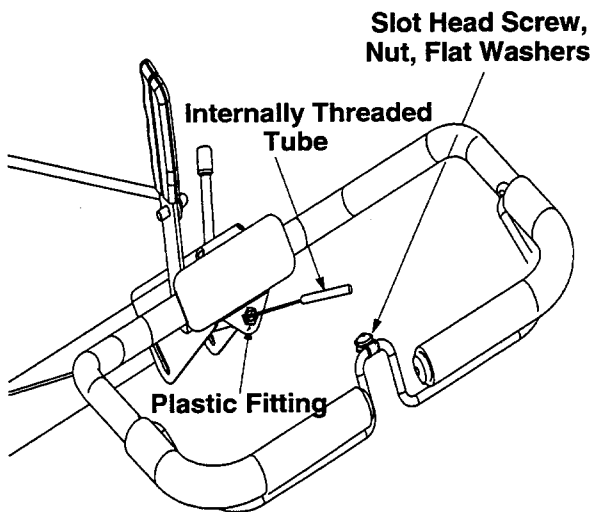

Figure 4
3. Push the cable through the hole in the center of the handle and snap in the plastic fitting. See Figure 4.
6. Thread eyebolt and #10 nut, removed in step 1, into the internally threaded tube at the end of the cable. Thread engagement should be about 3/4". Tighten nut against tube at end of cable. See Figure 4.